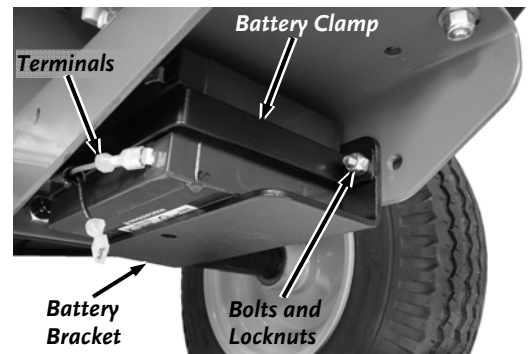

Figure 38
1. Disconnect the Battery Terminals (**Figure 38**).